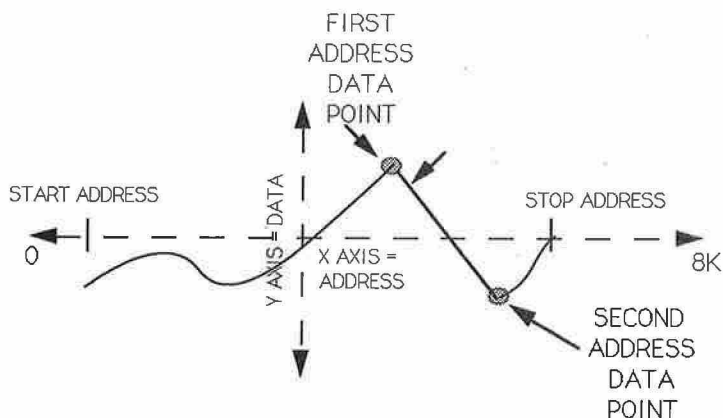

Figure 5. Line Edit
Two point (line) editing allows the user to develop waveforms by drawing a line between two points. The locations of the points are defined by address (X) and data (Y) entries. Figure 5 illustrates a line edit waveform. The horizontal line or X axis represents arb addresses (0 to 8191), and the vertical line or Y axis represents the arb data (-2047 to +2047). The line edit method draws a line between the first address data point and the second address data point. Intermediate data values for intermediate address points are automatically calculated and inserted in memory for you. This editing method works quite well when you have waveforms that are either triangular or rectangular in nature; they can easily be constructed using a series of straight line segments.